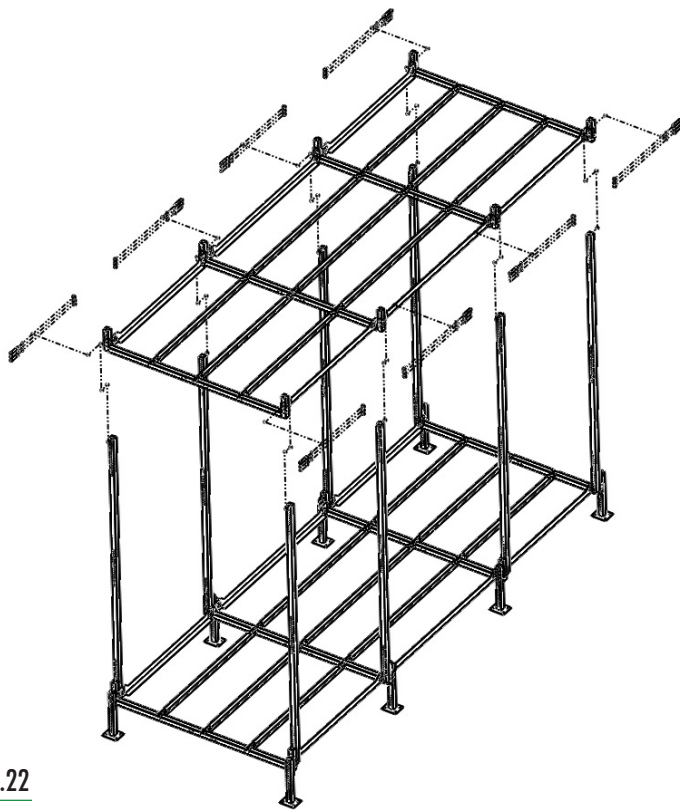

Fig. 22
5.2 Fix the pole to the second welded crossbar of the start frame of the second level with 3x bolt. ensure to include the side rail (1) correctly in the fixture as shown in Fig 22